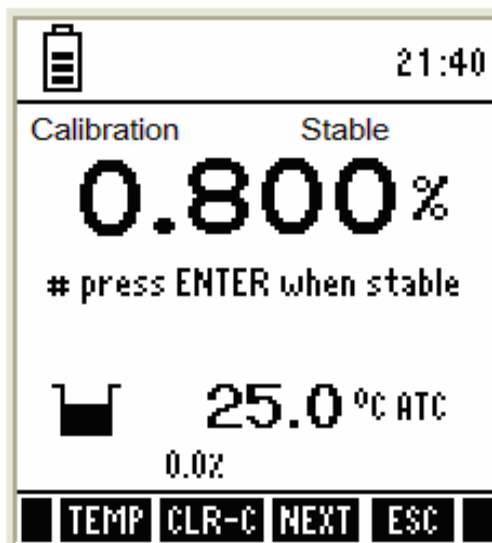

Figure 30 : 0% saturation calibration Screen
4. The meter then shows saturation calibration screen [Figure 30].